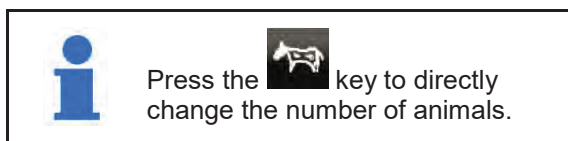

Fig. 216
2. Press the "Charging mode" key (1).
- Instead of the camera picture, the terminal displays a list of saved recipes (Fig. 216).